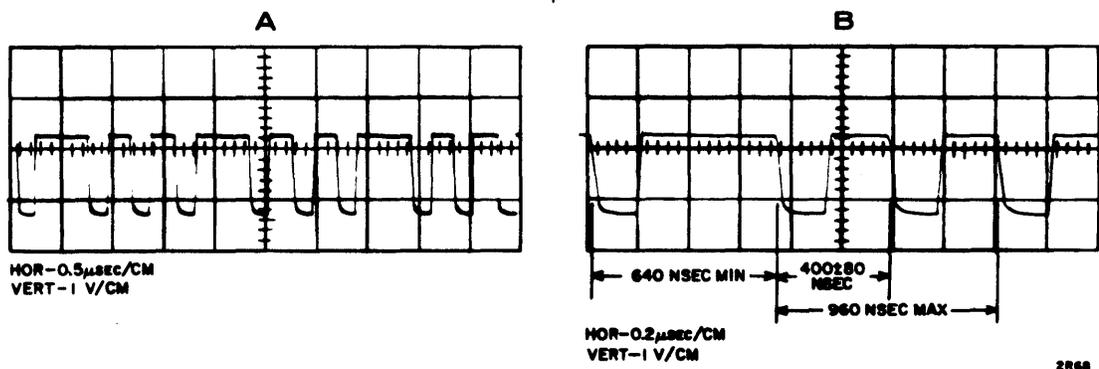

Figure 6-22. Read/Write Peak Shift
- c. Select any head and read Track 202. Make oscilloscope settings and a trace comparison according to Figure 6-22, parts A and B. The trace should meet the requirements of Figure 6-22, part B.
- e. If the requirements of Figure 6-22 are not met, replace the applicable head/arm assembly and/or the related torsion arm assembly.